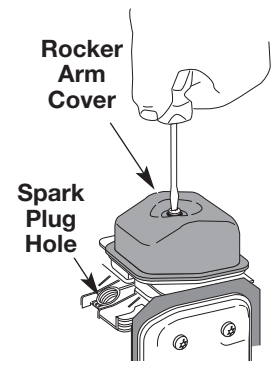

Fig. 28
5. Clean dirt from around the rocker arm cover. Remove the screw holding the rocker arm cover with a large flat blade screwdriver or Torx® T-25 bit (Fig. 28). Remove the rocker arm cover and gasket.